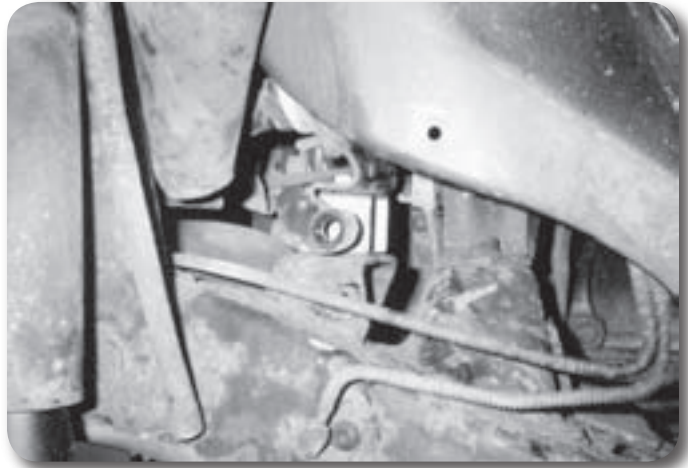

Figure 10
50. Mount the provided steering carrier bearing spacer tube between the steering carrier bearing and the frame. Attach with the 10mm x 60mm bolt through the original mounting hole in the carrier bearing, through the tube, and into the threaded hole in the frame bracket. (Fig. 10) Do not tighten. Use Loctite on mounting bolts.